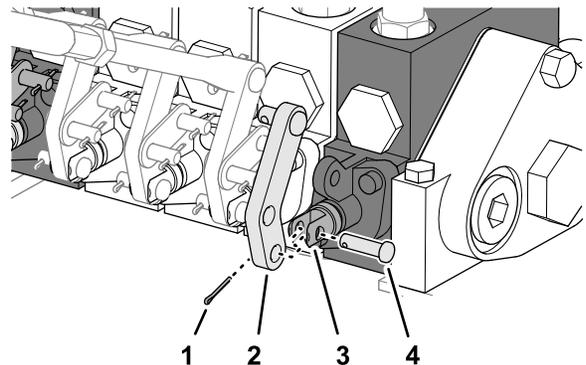

Figure 20
- Align the hole in the control lever with the holes in the fork of the control valve for cutting-unit 6 (Figure 20).
- Assemble the lever to the fork with the clevis pin and cotter pin (Figure 20).